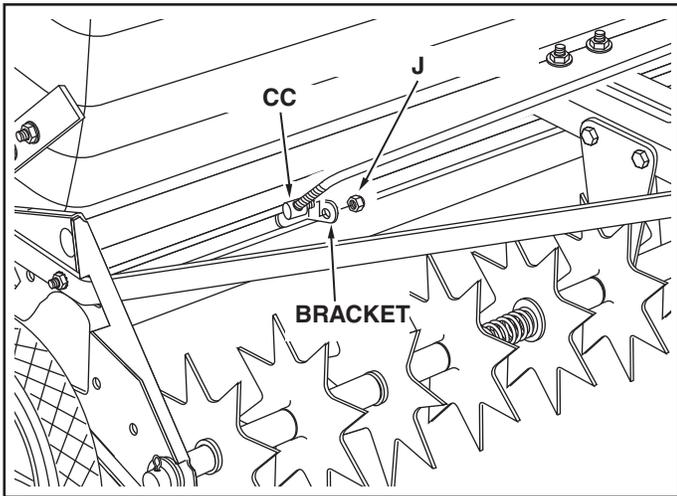

FIGURE 26
40. Check that both ferrules (CC) are adjusted so that approximately ten threads (1/2") of the control rod is exposed. Insert both ferrules into the brackets which are riveted to the front of the flow plates. Assemble a 1/4" nylock nut (J) onto each ferrule, making only **finger tight** at this time. See figure 26.